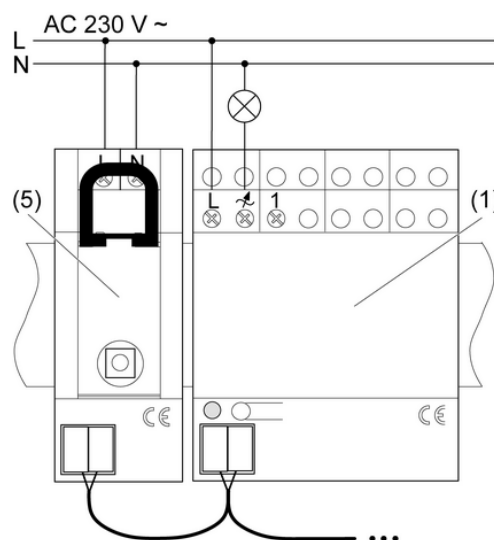

Figure 2: Connecting the dimmer (1) to RMD radio receiver (5)
- Connect dimmer to terminal (4) via a bus cable with the RMD radio receiver (5) and/or other radio actuators (Figure 2).